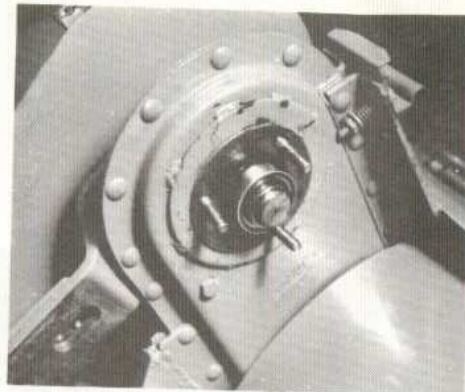

FIG. 51
5. Clean shaft. Shaft must be free of burrs and nicks. Remove bearing, Fig. 51.